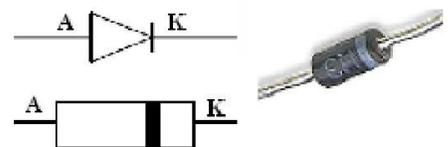
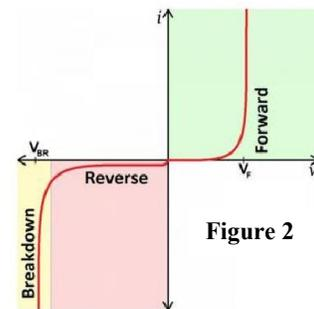

Figure 1
Figure 2
- 1) Turn the voltage knobs to the minimum (maximum counter clockwise CCW), then switch on the DC power supply. **Figure1. 7**
- 3) Set the DC- power supply to **10 volt** by adjusting the coarse tuning knob. Connect the red lead to the "+" output terminal and the black lead to the "-" output terminal (Don't connect any leads to the "GND" output terminal). Then connect the supply in series as shown in Figure1. 7.
The diode in Figure 1 is a two-terminal semiconductor device with a nonlinear $i-v$ characteristic. The **Anode (A)** corresponds to P-type side while the **Cathode (K)** corresponds to N-type side. The current flows in only one direction through the diode from the anode to the cathode. There are three operating regions for the diode according to the $i-v$ characteristic of the diode as shown in Figure 2: